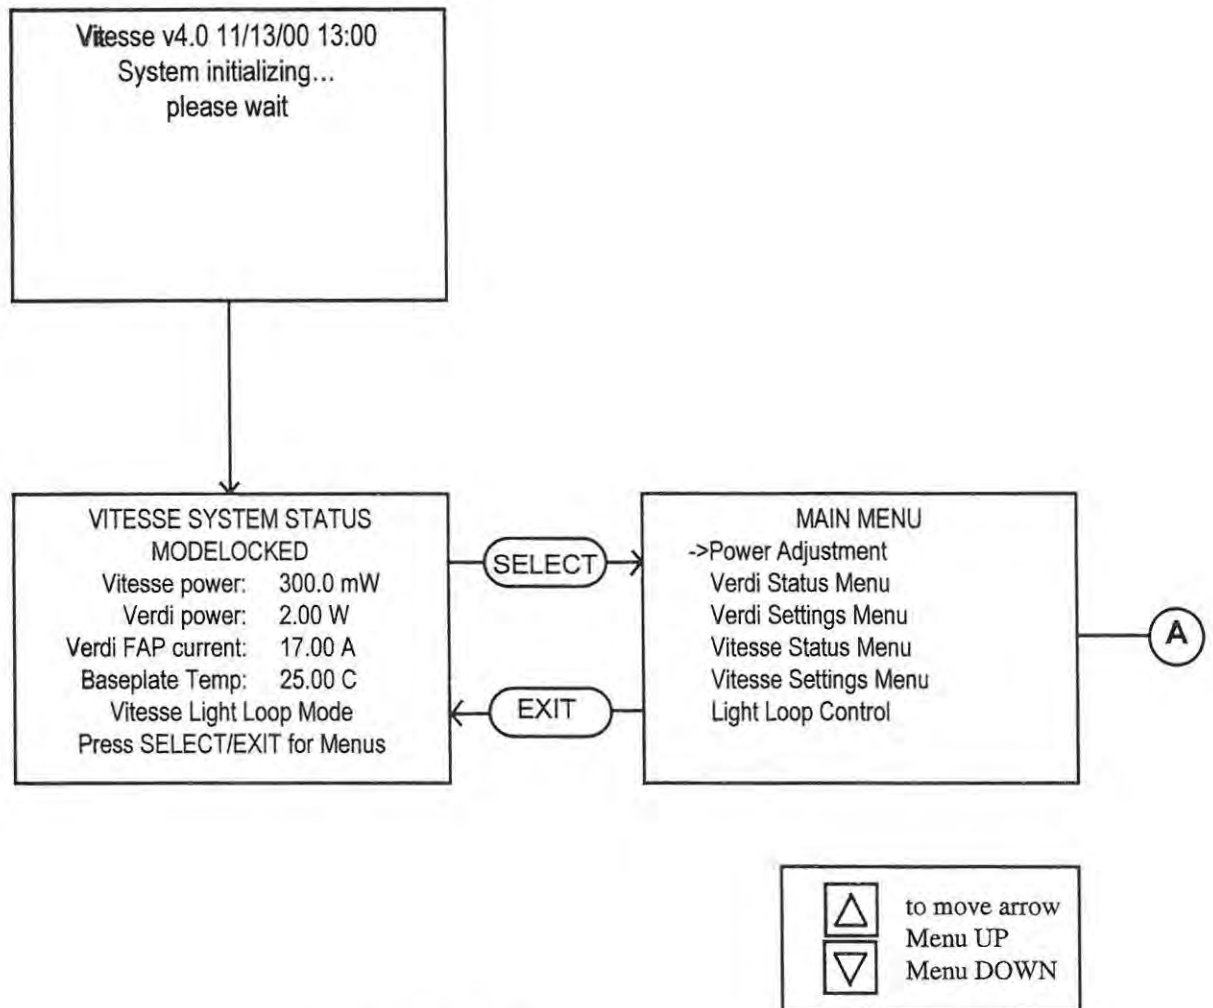

Figure 3-3. Menus
2. The power supply display (in the Verdi Status - Servo Status submenu) will indicate that the pump laser servo's are seeking. Refer to Figure 3-3 for the front panel displays and menus.
2. The main menu will appear on the power supply front panel display. Refer to Figure 3-3 for a description of the display menus.
Figure 3-3 shows the laser menus. Refer to Table 3-4 for the submenus.